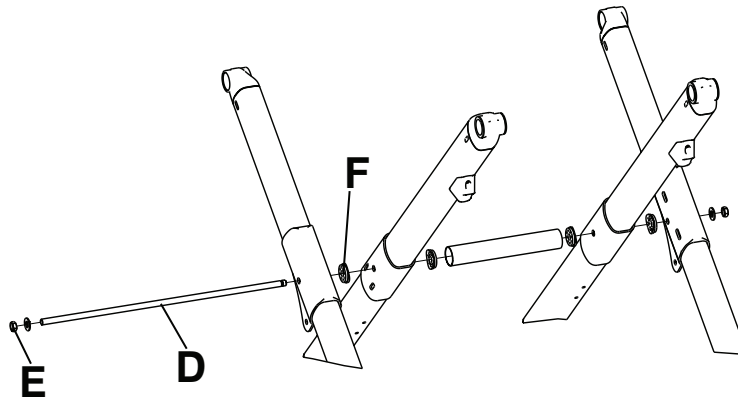

Figure 11 – Save the bearings
5. Using two 9/16" combination wrenches and a dead blow hammer, remove the base connecting rod (D) and centerlock hex jam nut (E).
Note - Save the bearings (F) that fall out (Figure 11).